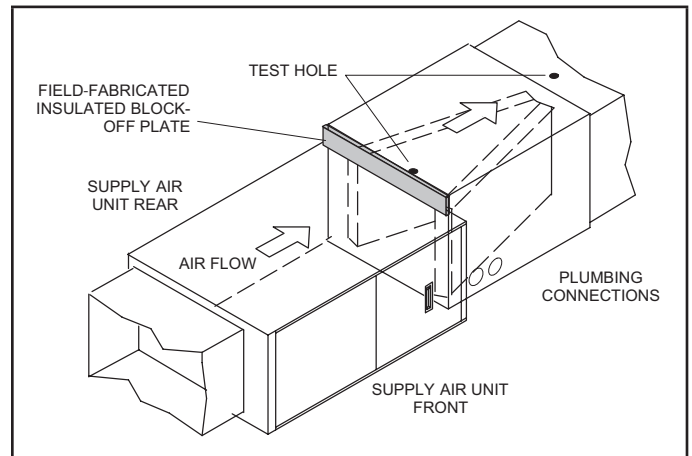

FIGURE 2. D-Width Coil with C-Width Furnace
- 5 - **Applications using CK40HT D-width unit with C-width furnace** – Figure 2 shows an application that includes a D-width coil and a C-width furnace. This application requires construction of an insulated, field-supplied block-off plate to cover the open space on the coil housing